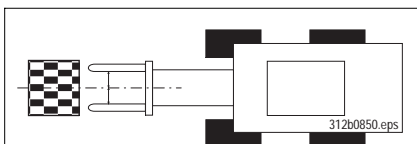

Fig. 123: Check fork spacing
- Check the distance of the fork arms to the center line (dashed line in figure 123)